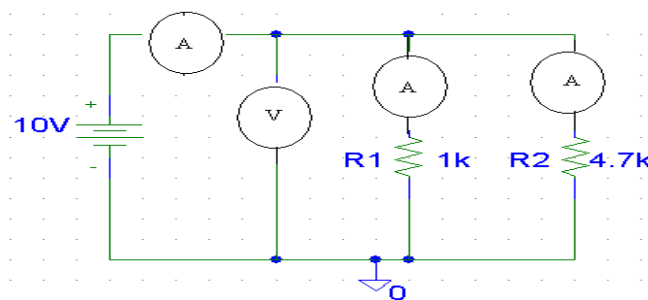

Figure2
6. Etudier le montage de la figure 2.